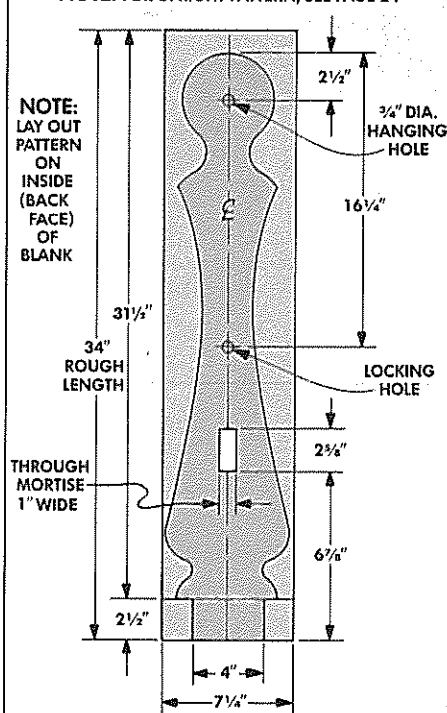

FIGURE 23
**HANGING HOLES.** Now lay out and drill a 3/4" hole for a dowel that holds the hanging basket, see Fig. 22. (Note: With the dowel in place, the top of the upright rests 1/2" below the top of the basket, see Fig. 23.)